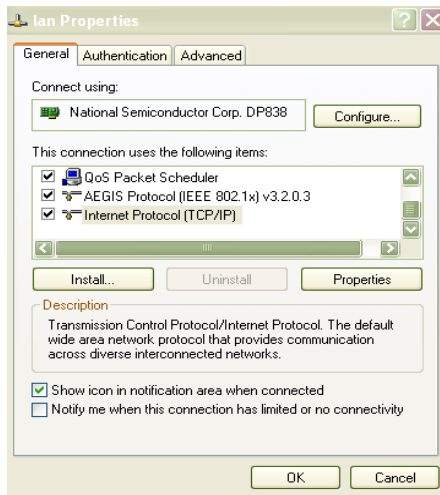

Figure 4.0
- 6.) Double-click the **Internet Protocol (TCP/IP)** line (figure 4.0)